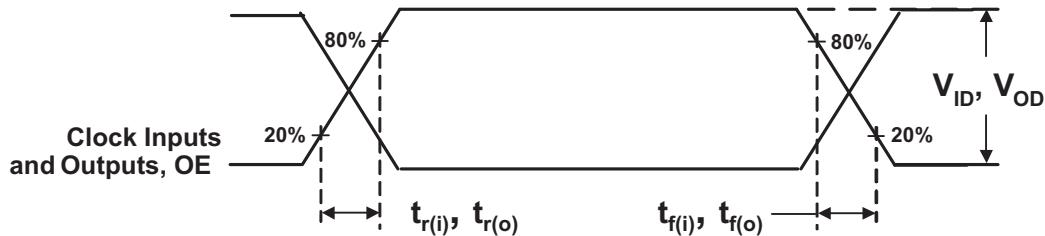

Figure 9. Input and Output Slew Rates
- (1) The PLL is turned off and bypassed for test purposes when AV_{DD} is grounded. During this test mode, V_{DDQ} remains within the recommended operating conditions and no timing parameters are specified.
- (2) V_{ID} is the magnitude of the difference between the input level on CK and the input level on \overline{CK} , see Figure 9 for definition. The CK and \overline{CK} , V_{IH} and V_{IL} limits define the dc low and high levels for the logic detect state.
(1) V_{OD} is the magnitude of the difference between the true and complimentary outputs. See Figure 9 for a definition.
(2) Total I_{DD} = I_{DDQ} + I_{ADD} = f_{CK} × C_{PD} × V_{DDQ}, solving for C_{PD} = (I_{DDQ} + I_{ADD})/(f_{CK} × V_{DDQ}) where f_{CK} is the input frequency, V_{DDQ} is the power supply, and C_{PD} is the power dissipation capacitance.